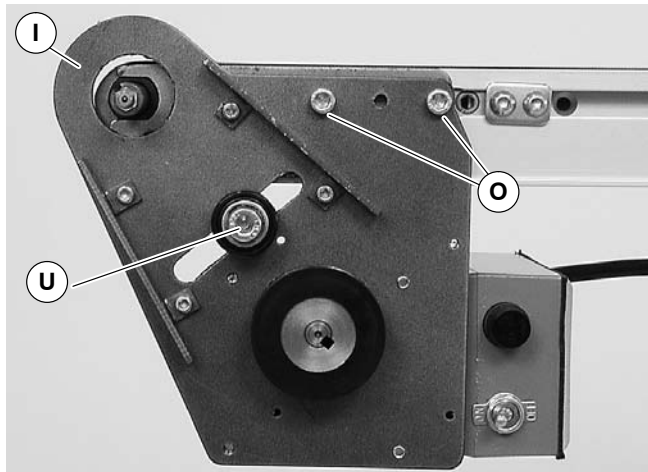
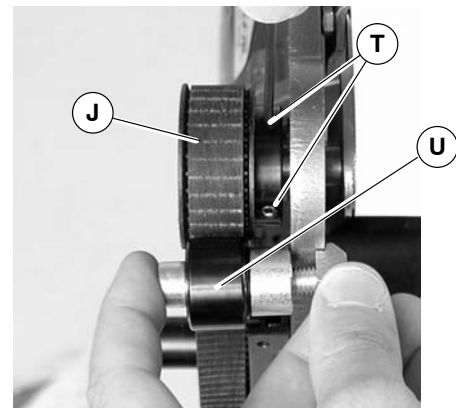

Figure 9
Figure 11
- Attach mount assembly (I of Figure 9) with screws (O). Tighten screws to 80 in-lb (9 Nm).
- Wrap timing belt (M) around driven pulley (J) and drive pulley (R). Install driven pulley (J) onto conveyor shaft.
- Remove cam bearing and spacer (U of Figure 9). Place the cam bearing and spacer (U of Figure 11) next to the driven pulley (J). Ensure the flanges of the driven pulley are aligned with the cam bearing. Tighten driven pulley set screws (T). This will allow for proper belt alignment while conveyor is in use. Replace cam bearing and spacer (U).